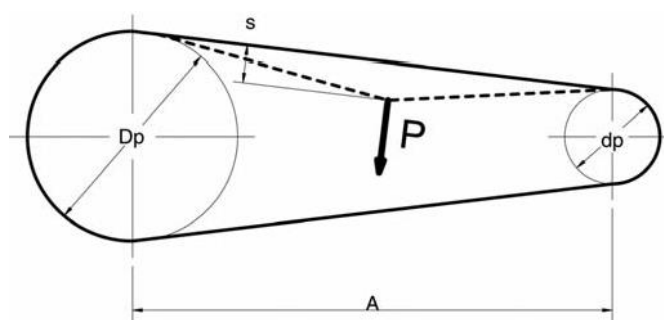
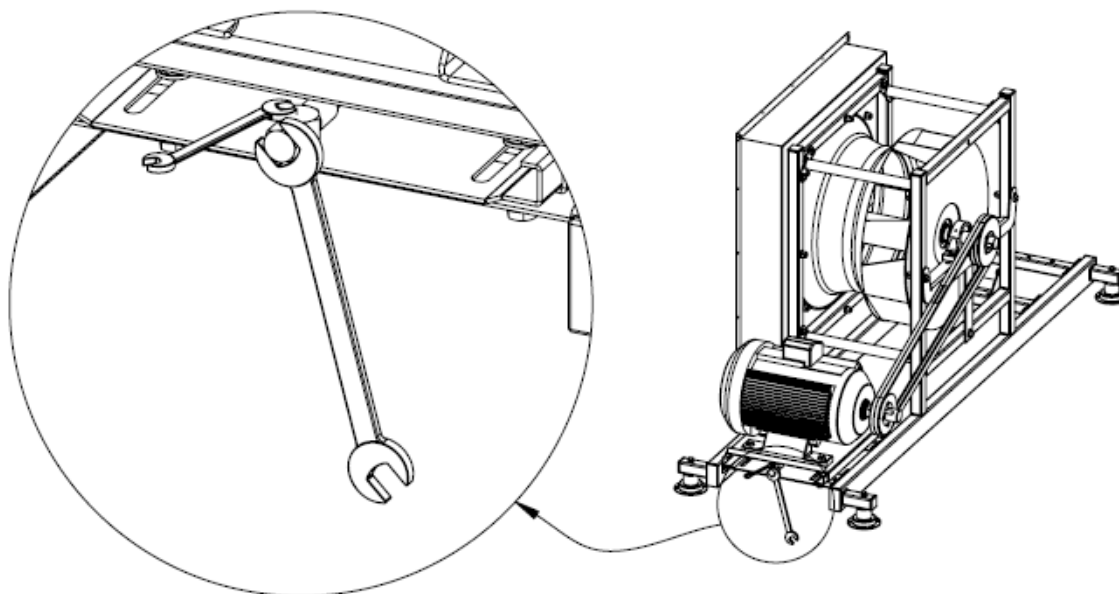

Fig.24 Deflection of a wedge-shaped belt
Fig.26. Adjustment of wedge-shaped belts tension
1. Measure a distance between wheels' axes (A size. fig.24).
2. Measure power P needed in order to bend the belt by $S=16$ mm for each running meter of a distance between the axes, more or less in halfway between the axes (fig.24).
In case of incorrect belts tension, stretch them by moving the motor with a stretching screw located in the motor panel (fig.26), and compare tension values with the values shown in the table 18
Also check if the wedge-shaped belt is not broken, cracked, dried or damaged in any other way. Damaged wedge-shaped belt must be replaced. In case of multi-belt drive, even if just one belt is worn out, you have to replace all the belts making sure that they have the same length and fit the grooves of the pulley. If you do not replace all the belts, the new ones will transfer bigger overloads since they are a bit shorter than the old ones. During belts replacement ease the stretching screws of the motor panel (fig.26) so that the belts can be removed and replaced with new one manually without applying force. In no circumstances you are allowed to install the belts by force, with a screwdriver or with any other tool. During belt replacement check if the pulleys' contact surfaces are not worn out. New belts should be stretched so as the required deflection force P (fig. 24) was as close to the P value shown in the table 18 as possible.